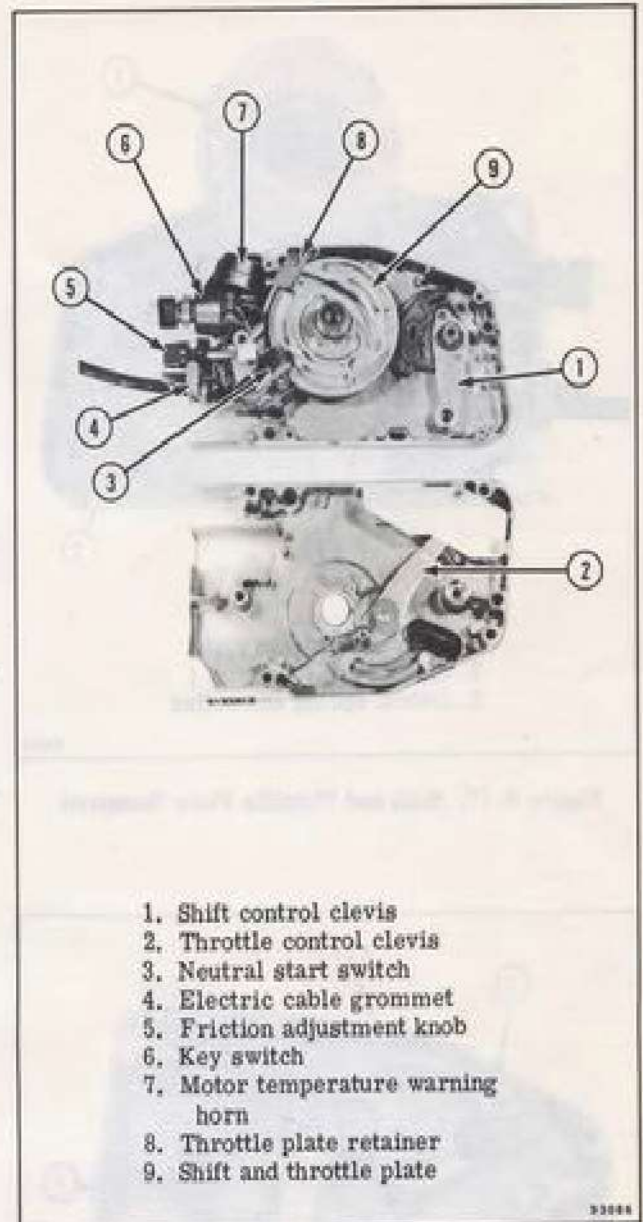

Figure 8-16. Remote Control Components
e. Remove retainer screw and throttle plate retainer. See Figure 8-16.
i. Rotate shift and throttle plate counterclockwise to engage gear teeth. See Figure 8-21. Orient parts in neutral position. See Figure 8-16.